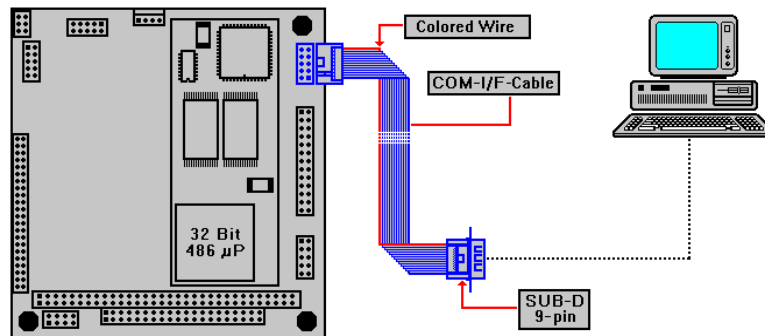

Figure 5: Installation of the COM-I/F cable
First of all, connect the COM-I/F cable with the COM1 connector of the CP/486SX2 base board. Please note, that this ribbon cable has a colored wire in order to label the pin 1. You can see the position of this colored wire in figure 5. This COM-I/F cable has a 10-pin plug connector for the CP/486SX2 base board on one end and a 9-pin SUB-D plug connector at the other end. This plug has the pin allocation of a standard COM port like this of your PC.
- Figure 5: Installation of the COM-I/F cable